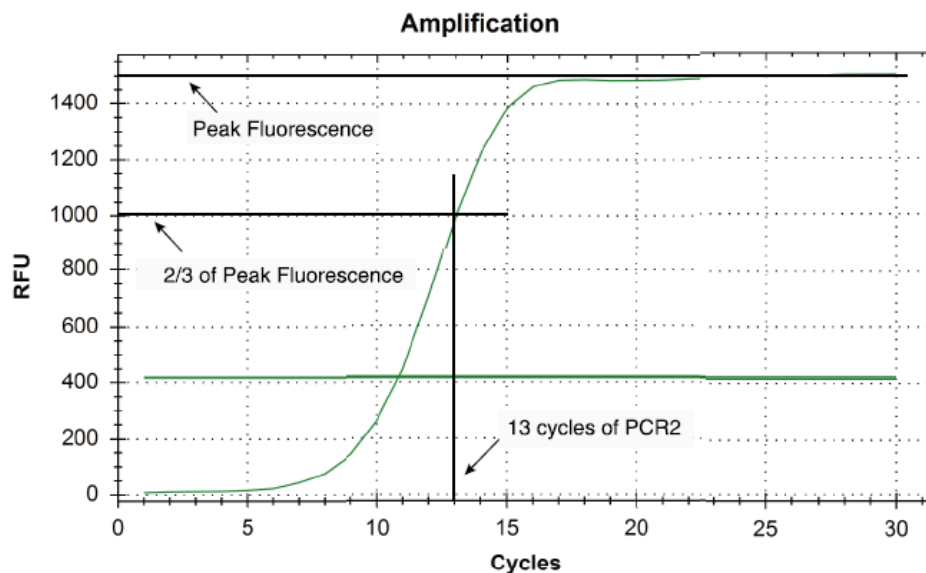

Figure 3. Determining cycle number for PCR2 using amplification curve of sample from a qPCR run.
- 38 The amplification curve for each sample is used to determine the optimal number of PCR cycles to use during PCR2 (Section: **PCR2 for Final Library Amplification**). The PCR cycle number is approximated by determining the cycle number (round down to the nearest whole number) corresponding to 2/3 of the peak fluorescence. (see example in Figure 3; in this example 13 PCR cycles will be used in Section: PCR2 for Final Library).